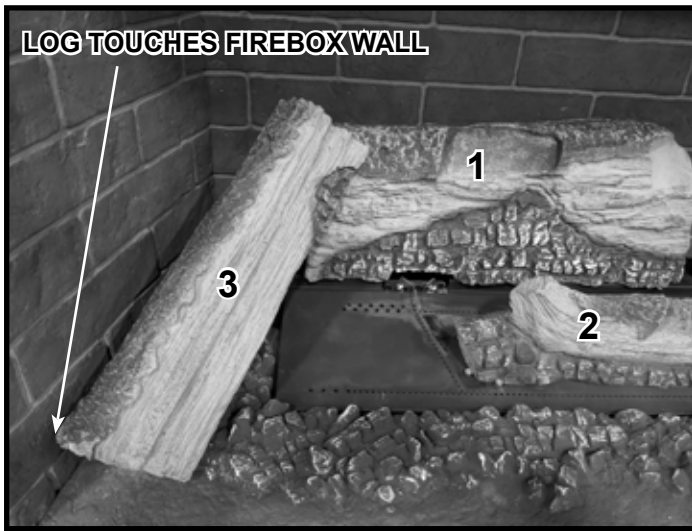
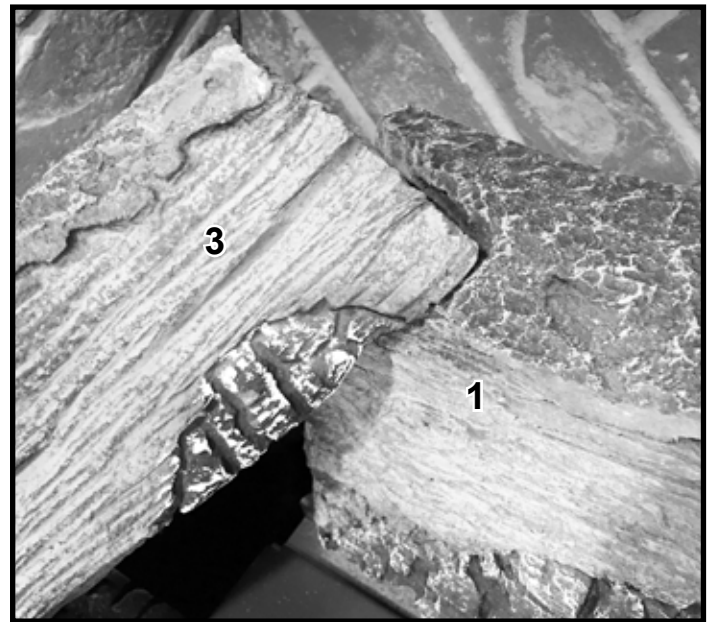

Figure 5 Position Log #3
Figure 6 Position Log #3
**Log #3:** Place the top end of Log # 3 on the notch located on Log #1. See Figure 3. The bottom end of Log # 3 should touch the left firebox wall as shown in Figure 5. The corner of Log #3 must be properly seated on Log #1 as shown in Figure 5 and Figure 6.